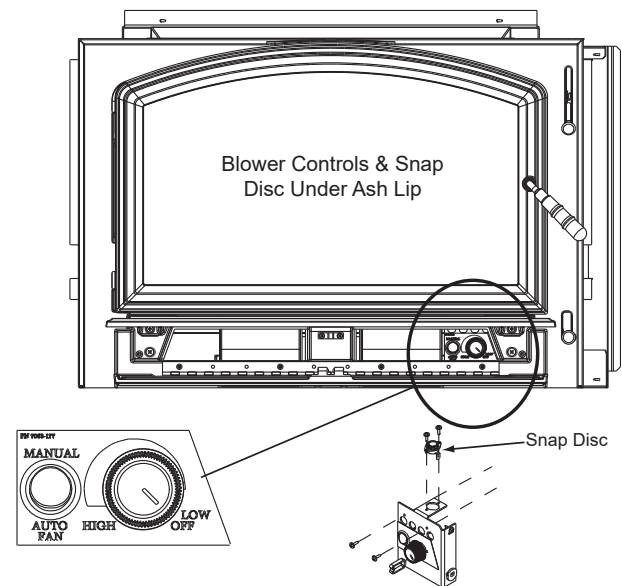

Figure 23.2 - Snap Disc Location
3. Locate the snap disc bracket assembly behind the blower controls on the right side under the ash lip (**Figure 23.2**).